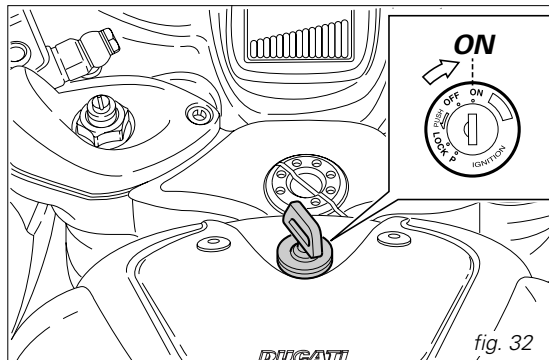

fig. 32
1) Move the ignition key to **ON** (fig. 32). Make sure both the green light **N** and the red light  on the instrument panel come on.